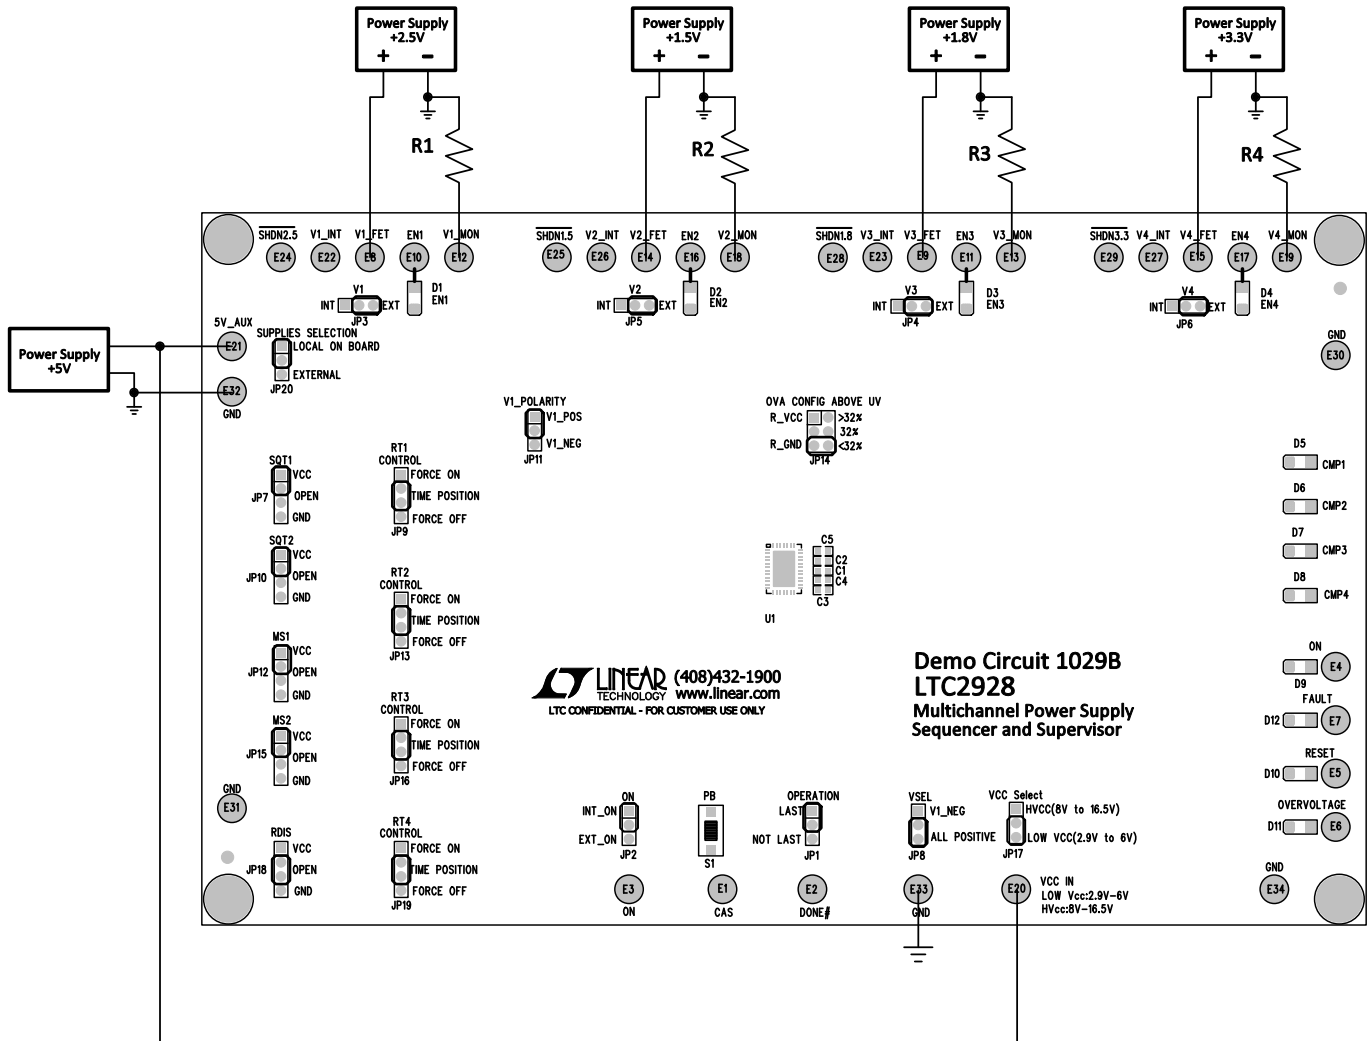

Figure 2. Demo Circuit 1029 Connections for Operation with External Supplies
5. Turn the +5V power supply off and connect four external power supply terminals with DC1029 as shown in Figure 2. Use external power supplies with output voltages +2.5V, +1.5V, +1.8V, and +3.3V. Leave output loads as in previous experiments or replace them with 3W resistors 2.5Ω, 1.5Ω, 2Ω, and 3Ω accordingly to have current in each rail around 1A.